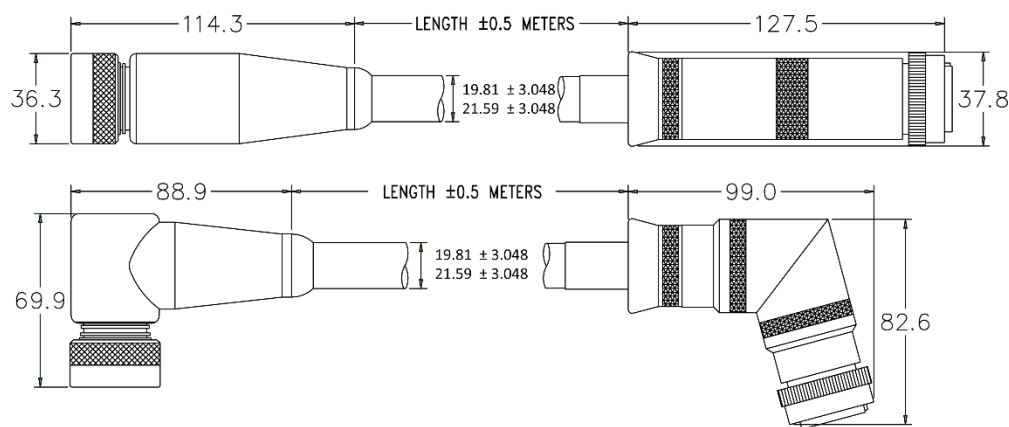

Figure 4. I/O Cable
- Available with either ends having straight or angled connectors or a combination thereof (see Figure 4).